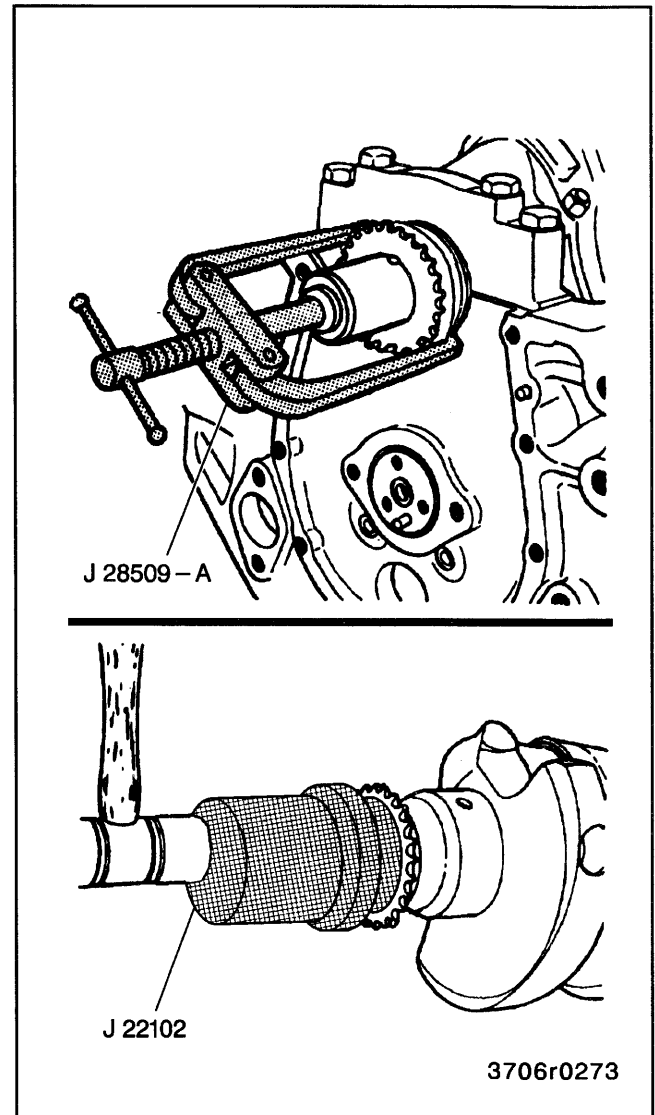

Figure 22—Replacing the Crankshaft Sprocket
16. Crankshaft sprocket (if required). Use J 28509-A (figure 22).
- 3. Crankshaft sprocket (if removed). Use J 22102 (figure 22). Make sure the timing mark faces outside.